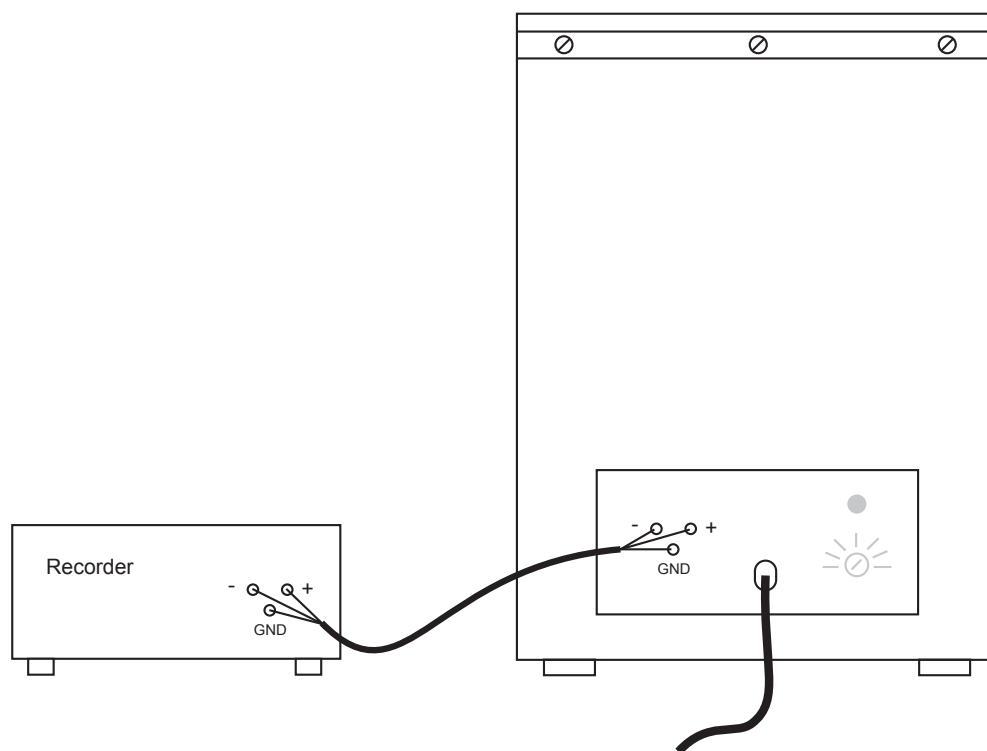

Figure 3-1
- A. Connect one end of the recorder cable to the terminals located at the rear of the GC (Figure 3-1). Connection should be made as follows: